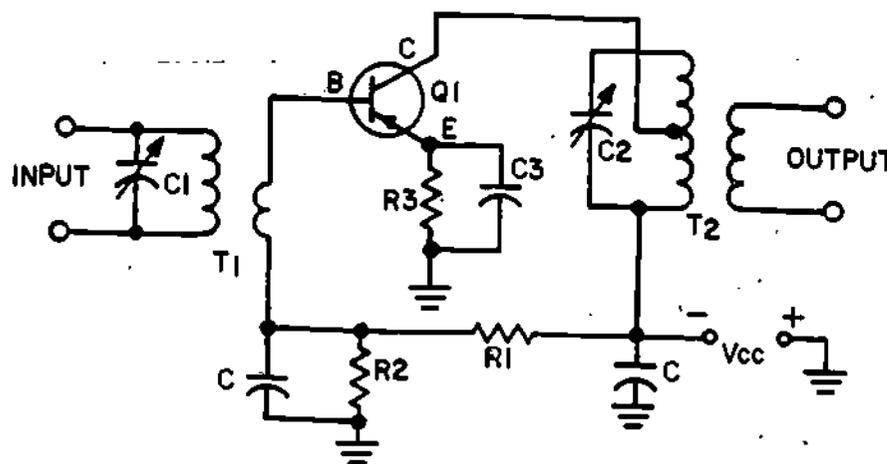

Figure 8
- ⑨. You have learned how both synchronous and stagger tuning improve amplifier operation. Let's apply this knowledge to the operation of the coupling components in the common-emitter IF amplifier stage shown again in Figure 8.
If C1 and C2 in Figure 8 are stagger tuned, the IF amplifier bandwidth will become (wider/narrower).